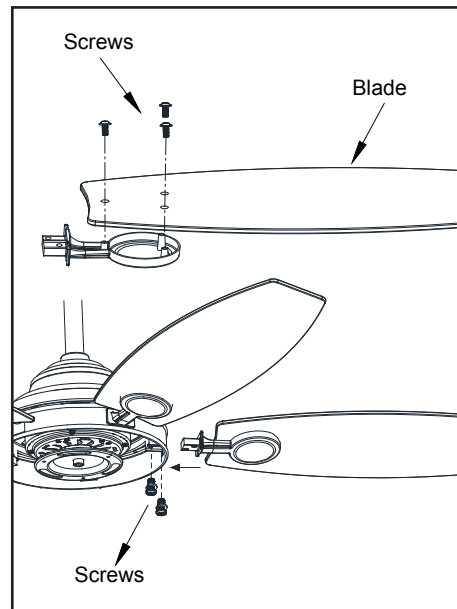

Figure 11
1. Attach a blade to the blade bracket using the screws supplied and tightened firmly.(Figure 11)
2. Attach the blade assembly to the fan motor housing by inserting the blade assembly into slots in the side of the fan motor housing using the screws supplied and tightened firmly. (Figure 11)